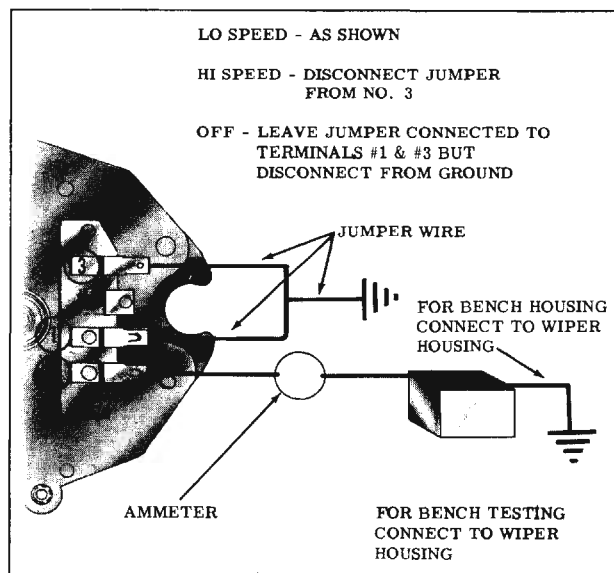
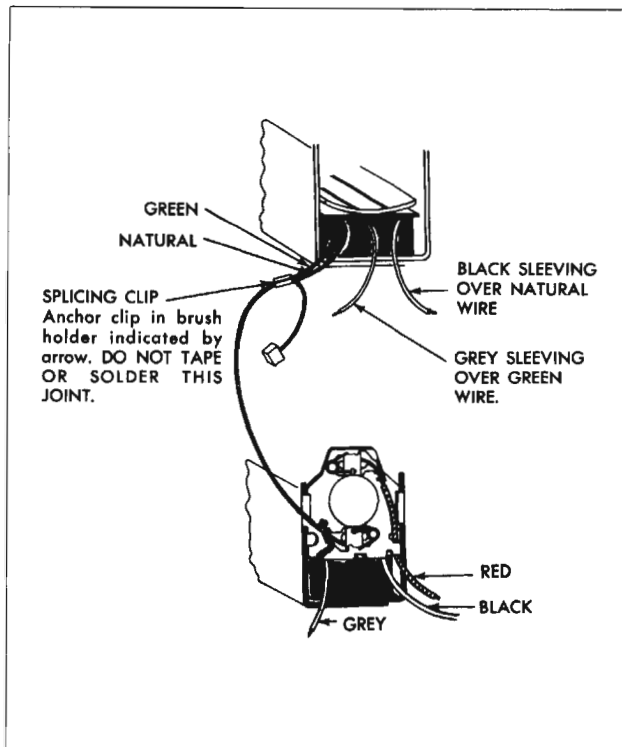

Fig. 14-172 Trouble Shooting Connections
Fig. 14-173 Splice Connections (Two Speed Except 3147 Model)
**DIAGNOSIS (ON CAR) (Fig. 14-172)**
- 2. With ignition switch on, check for 12 volts at harness terminal that connects to number (2) terminal. (Fig. 14-172)
- 3. To determine if dash switch or car wiring are at fault, disconnect harness from wiper motor and try operating wiper as shown in Fig. 14-172. If wiper fails to operate, disconnect transmissions from wiper crank arm and recheck wiper operation. If wiper still fails to perform, correctly, remove wiper from car and check wiper according to procedure under TROUBLE SHOOTING WIPER DETACHED.
It is assumed that in many cases there is no information available to the repairman about the original wiper complaint. It is necessary, therefore, that wiper operation be checked according to the instructions shown in Fig. 14-172. IMPORTANT: Be sure to use an ammeter capable of reading at least 30 amperes in the feed wire circuit.
0	(1) Loose solder connection at wiper terminal No. 2. (Fig. 14-172) (2) Loose splice joints. (Fig. 14-173)